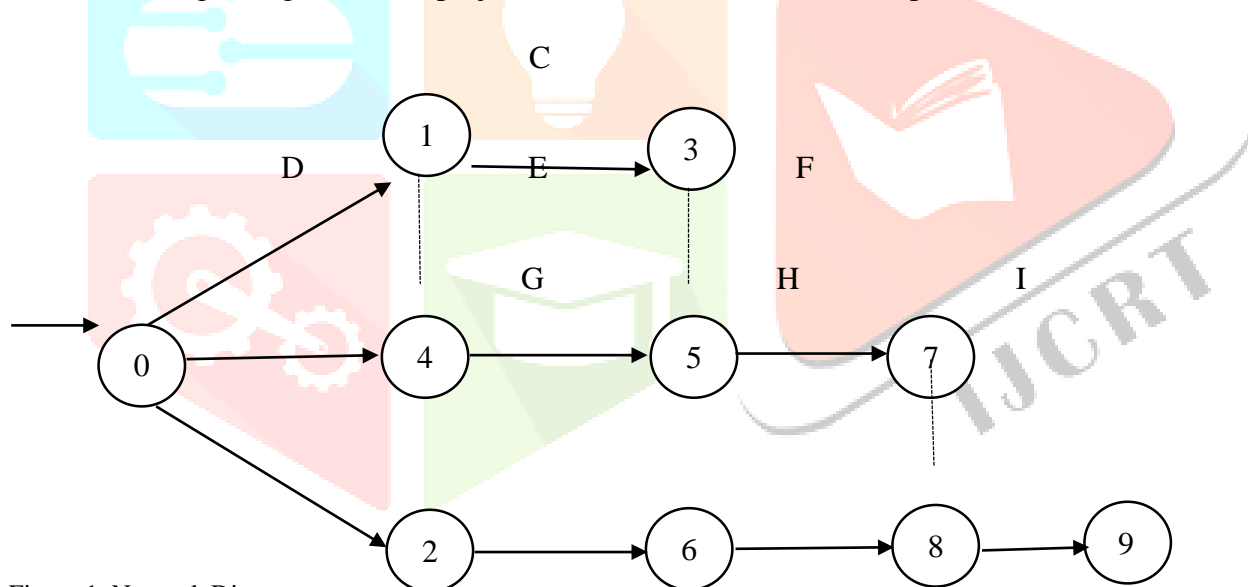

Figure 1. Network Diagram
- A project must contain one starting node and one ending node. In Fig 1. 0 is the starting node and 9 is the ending node.
- Dummy activity is used when two activities start at same node and end at common node. In this situation add some other number and that number does not consume any man power, time etc. For ex. In Fig 1. The dummy activity is denoted by dotted lines.